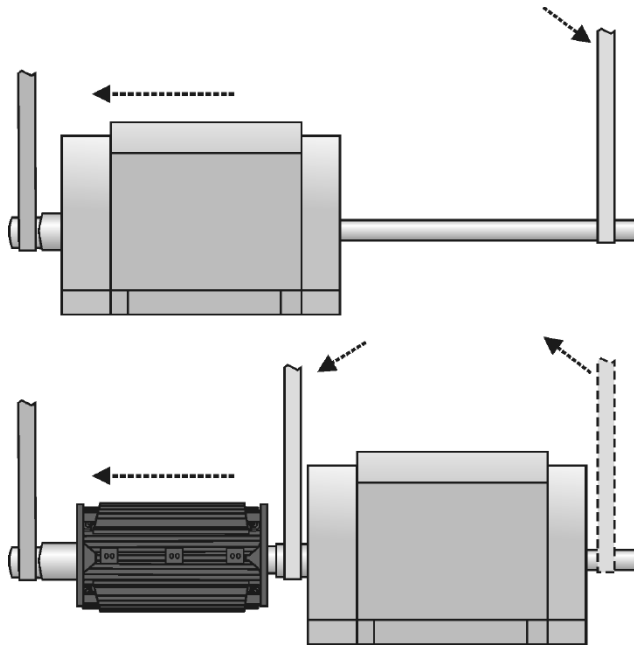

Figure 23: Floating the rotor
9. Float out the rotor (see Figure 23). First attach a pipe over the shaft on the drive end. Attach slings around the pipe on one end and around the shaft on the opposite end. Lift up the rotor, and move it out, resting the rotor as the slings are moved down the pipe for the next lifting stage.